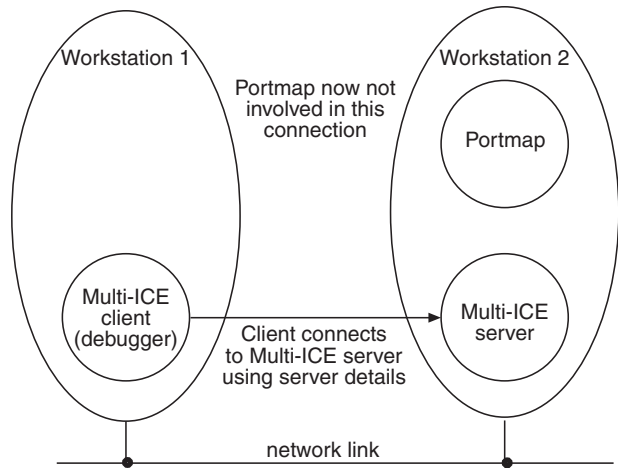

Figure 1-3 RPC client connects to RPC server directly
3. The RPC client and the RPC server can connect to each other directly. This is the state shown in Figure 1-3.